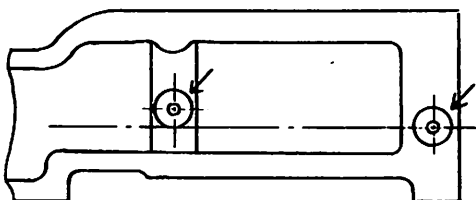

Fig. 61
- 1) Grease up the parts shown by Fig. 61 to 69 once in every 2 years and whenever they are disassembled.